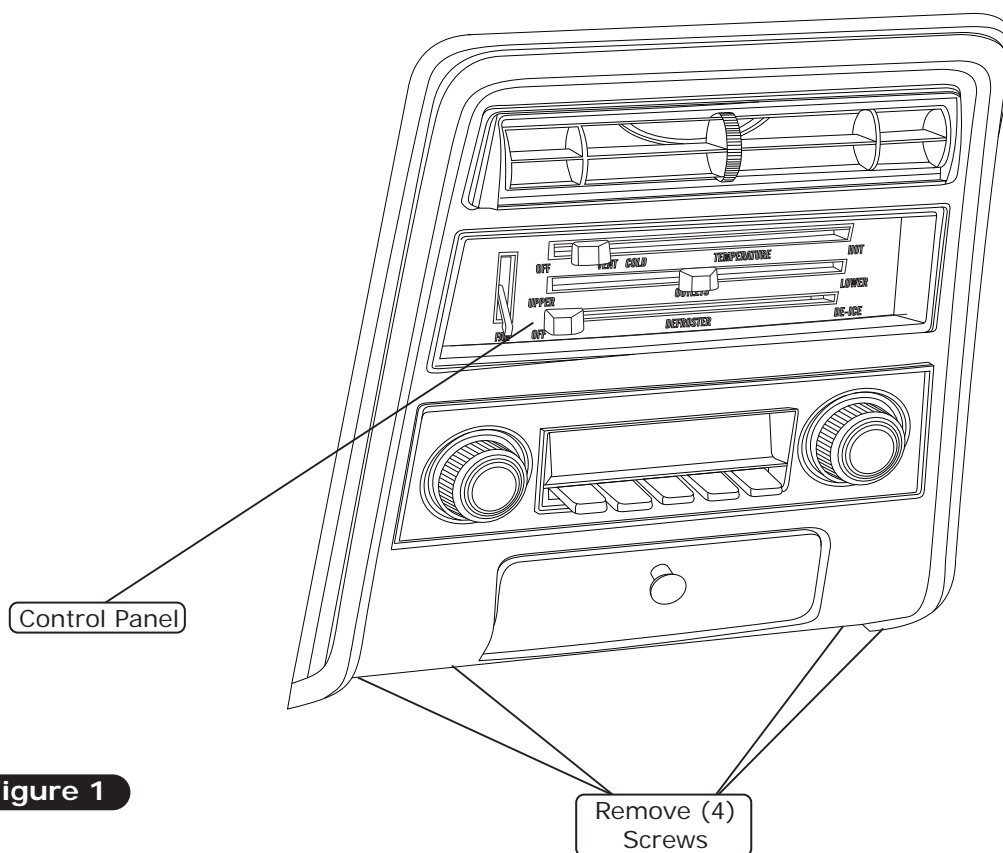

Figure 1
1. Remove the (4) mounting screws from the bottom of the dash bezel (See Figure 1, below).
2. Remove the (4) screws from behind the dash bezel, and remove the control panel.